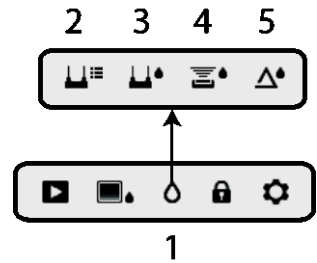

Fig. 5-3 Moisture mode icons
From the Main Menu select the MOISTURE mode icon (1). Refer to Fig. 5-3. Then choose from the four Moisture mode options (items 2, 3, 4, and 5) as described below.